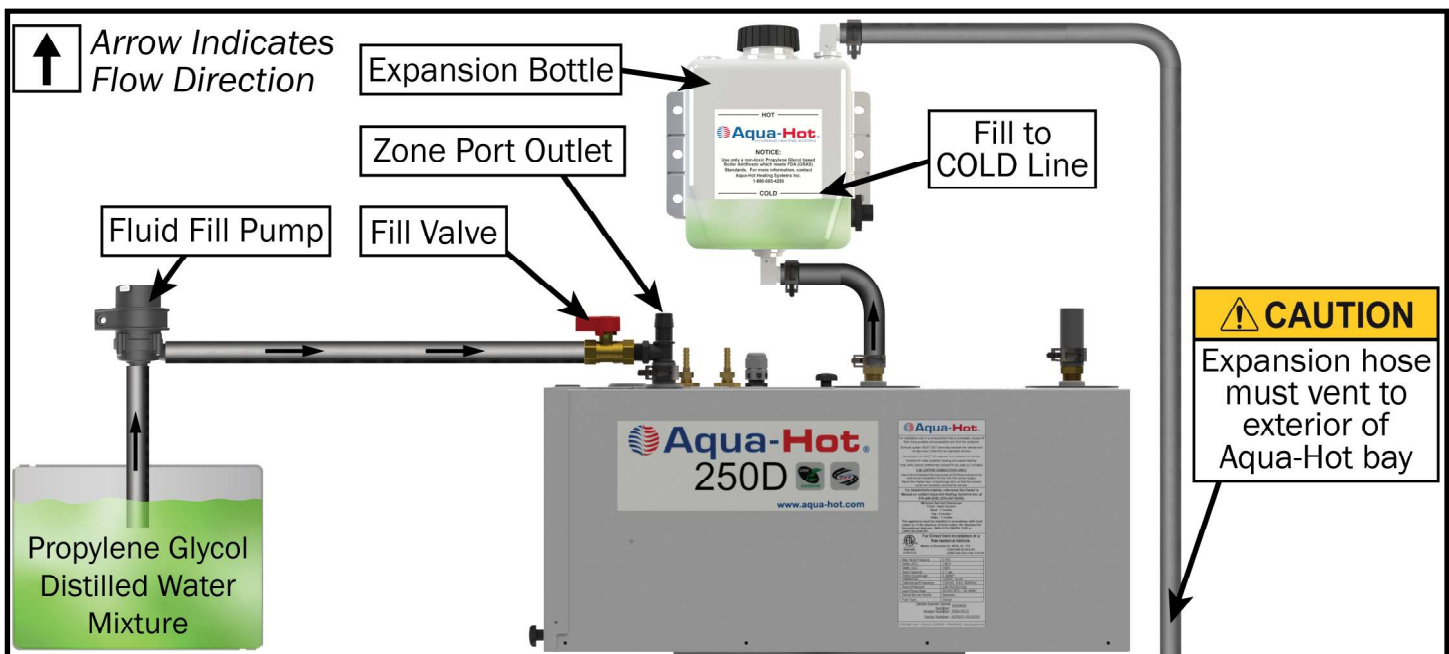

Figure 139
1. Locate the fill valve at the zone port outlet (Figure 139).